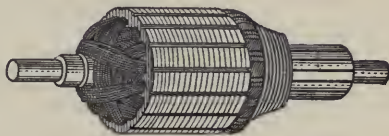
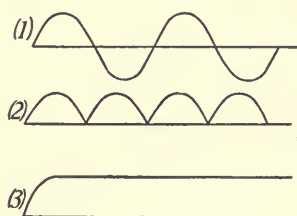

FIG. 289.—A drum armature.
FIG. 292.—Graphic representation of (1) an alternating current; (2) a pulsating current; (3) a continuous current.
insulated copper wire wound in numerous slots cut in the surface of a cylindrical piece of iron. Fig. 289 shows a *side* view of the iron core of such an armature. Iron is used to form the body of the armature since the magnetic lines of force flow easily through the iron. The iron by its permeability also concentrates and increases the magnetic flux. The best armatures are made of many thin sheets of soft iron. These are called *laminated* armatures. An armature made of a solid piece of iron becomes hot when revolving in a magnetic field. This is due to electric currents induced in the iron itself. This heating is largely reduced by *laminating* the armature. Why?
it continues to flow out of the upper brush. This change in connection at the brushes takes place at each half turn of the armature, just as the current changes in direction in the coils. This is the manner in which the commutator of a dynamo changes the alternating current produced in the armature coils, into a direct current in the external circuit. Fig. 292 (1) represents graphically an alternating current, (2) of the
armature with a corresponding number of segments upon the commutator. (See Figs. 289 and 293.) As each coil and commutator segment passes a brush, it contributes an impulse to the current with the result that armatures with many coils produce currents that flow quite evenly. (See Fig. 292, 3.)
The current represented in Fig. 292 (2) is called a *pulsating* current.